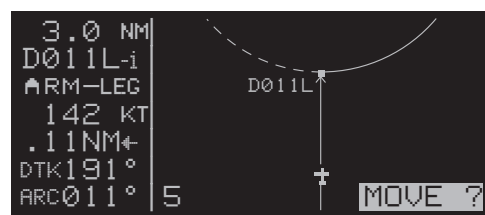
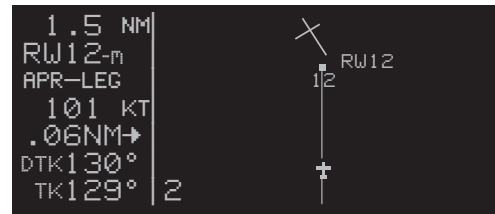

Figure 6-26
Figure 6-27
- From either page press **CLR**. This will change the waypoint to read **MOVE?** (figure 6-26). If it is desired to recompute the arc intercept point then press **ENT**. If a new arc intercept point is not desired then press **CLR** again.
11. Some DME arcs have defined radials that serve as step down fixes. These points are not stored in the database. To help you determine your position relative to these step-down points along the arc, the KLN 900 will display a new value on the bottom line of the display on the Super NAV 5 page. This new bit of information is denoted by the letters **ARC** followed by three numbers. The three numbers represent the current radial that you are on relative to the reference VOR/DME. It is not possible to select any other type of information to display on this line like you normally can. The arc radial is forced into this position when the aircraft is 30 NM from the arc. The arc display is shown in figures 6-26 or in figure 6-27. Just watch this value and when it reads the same as one of the step-down points you can descend as necessary. This particular example does not have such points, but there are quite a few approaches that do.
14. The visual descent point is identified by the along track distance to the MAP to be 1.5 NM. When the aircraft reaches this point (figure 6-27), and the runway environment is in sight, it is possible to descend for a landing.